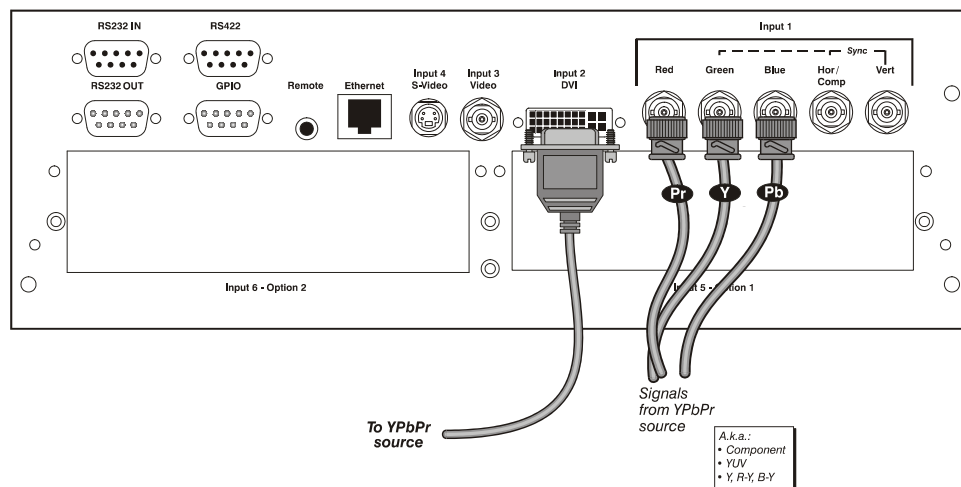

Figure 2.8. Connecting YPbPr sources
► Connect an YPbPr signal (*component video*) to **INPUT 1** or **INPUT 2** as shown in Figure 2.8.